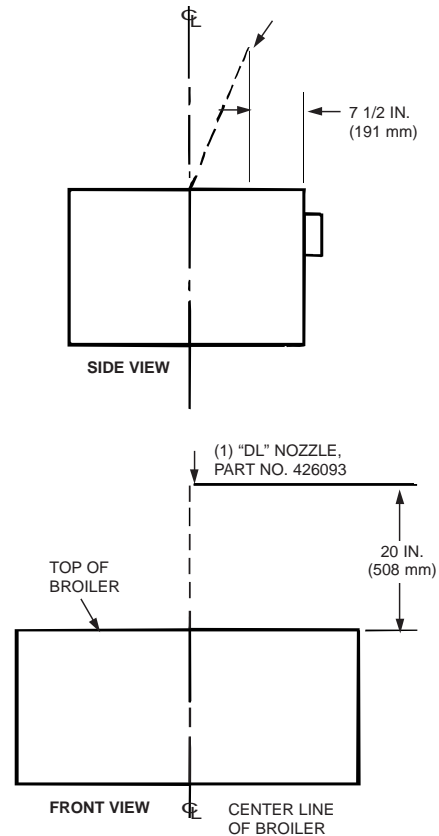

FIGURE 29
- ▶ • **Nozzle Quantity/Type:** (1) one “DL” nozzle, Part No. 426093.
- **Nozzle Height:** 20 in. (508 mm) above top of appliance. See Figure 29.
- **Nozzle Location:** 7 1/2 in. (191 mm) back from front edge of appliance. See Figure 29.
- **Nozzle Aiming Point:** Aimed at center of broiler top. See Figure 29.